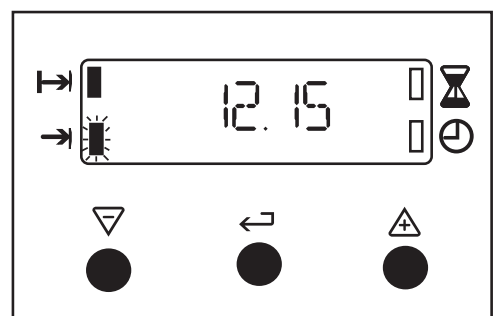

Fig.8.
- vi) To set the 'End Time'. Press the Selector Control button until the 'End Time' indicator neon flashes. Press the increase control button (+) until the required stop time is displayed, e.g. 12.15 p.m. as Fig. 8. If necessary depress the decrease control (-) until the correct time interval is achieved.